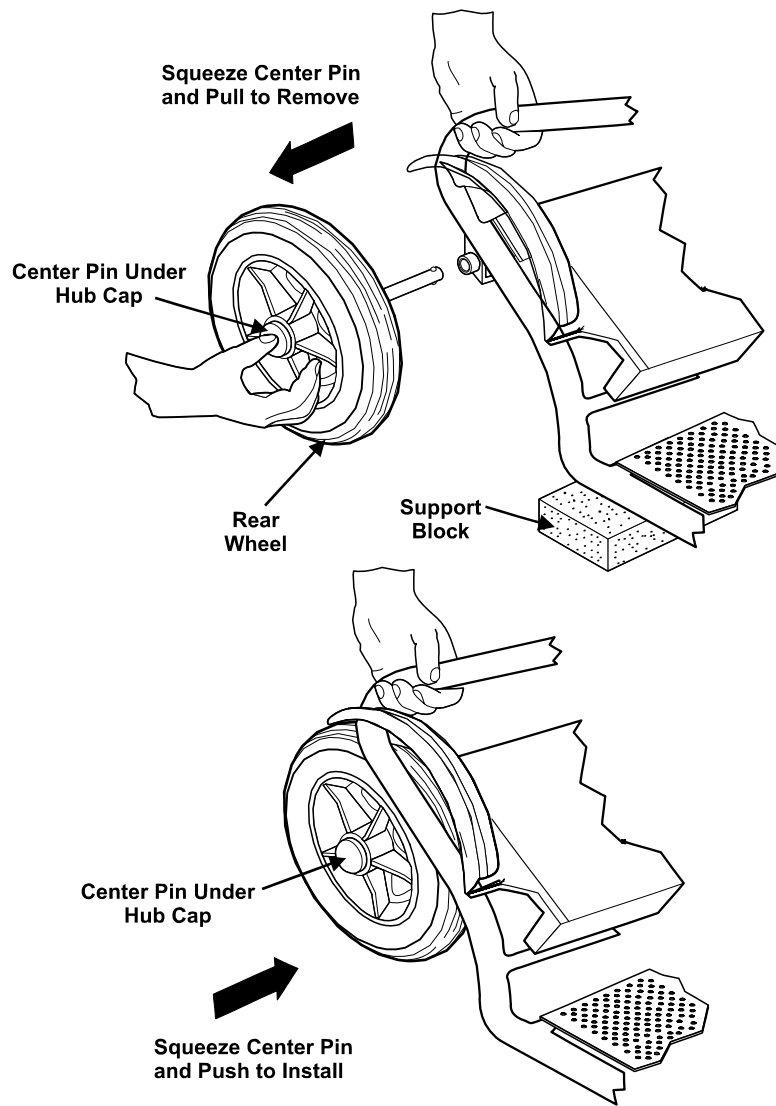

Figure 18.
4.4 Removal and Installation of Rear Wheel/s (See Fig. 18)